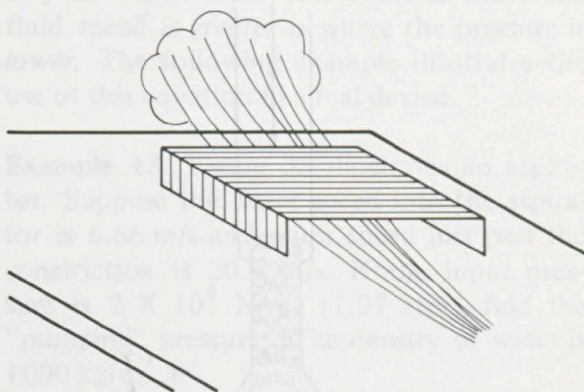

Figure 29.
3. Fold a 3 in X 5 in index card as shown in Figure 29. Place the card on the edge of a table and blow through the "tunnel" formed by the card and the table top. What happens? Can you blow the card off the table in this way?